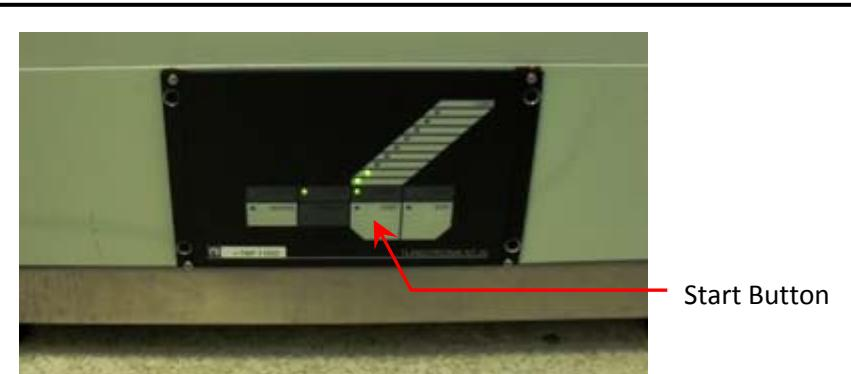

Figure 2, Turbo Pump Control Panel
| Figure 2, Turbo Pump Control Panel | 3 |
- 6.2.4.3.2 Press the Turbo pump start button. See *Figure 2*.